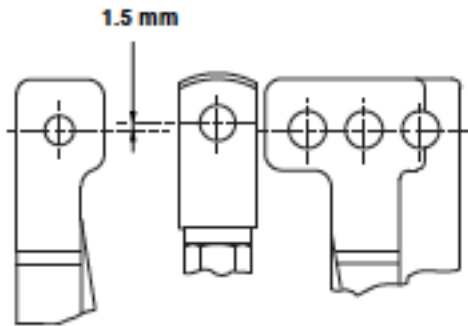

Figure 20 - Plug stem pre-adjustment for VariPak 28002 adjustable- C_v
- 1.5 mm above the alignment of the pin holes in the actuator bracket (108) for the VariPak 28002 adjustable- C_v valve (see figure 20).